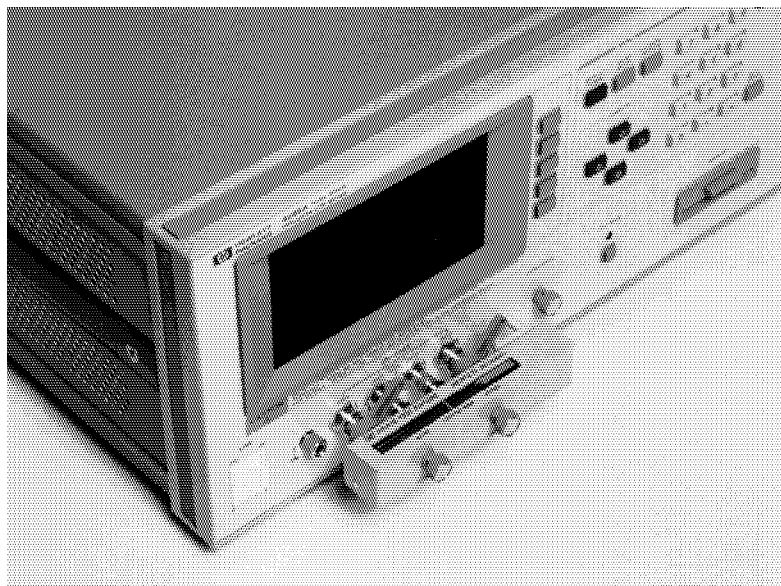

Figure 3-1. Connecting the 16047C
Connect the 16047C to the 4285A's UNKNOWN terminals, as shown in Figure 3-1.
- a. Leave the 16047C OPEN as shown in Figure 3-1.